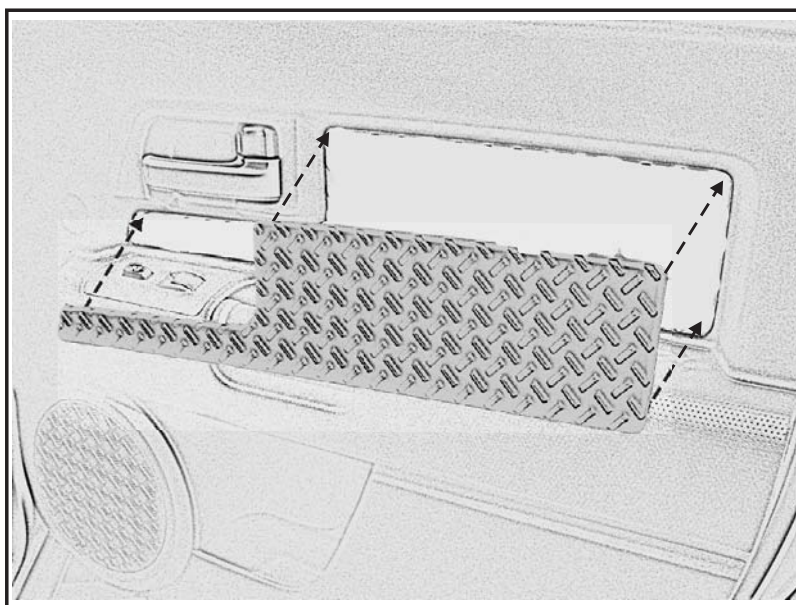

Fig. F1
-  A. Align part uniformly to edge of factory components. Edge of appliqué should be flush to edge of factory component,  $\pm 1.0\text{mm}$ . (Fig. F1).